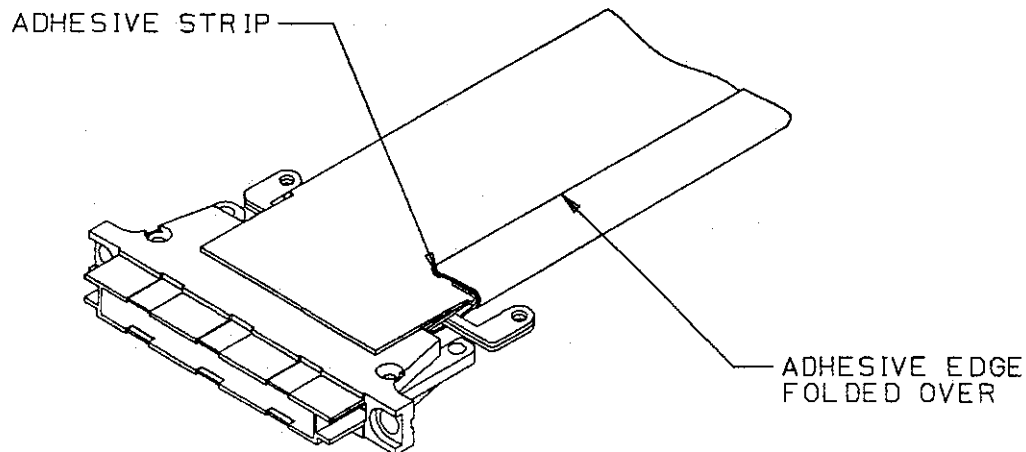

Figure 24. Adhesive Edge of Shield Folded Over
7. Remove the release paper from the adhesive strip and fold the adhesive edge of the shield over so that it sticks to the shield along the full length of the cable (Figure 24).